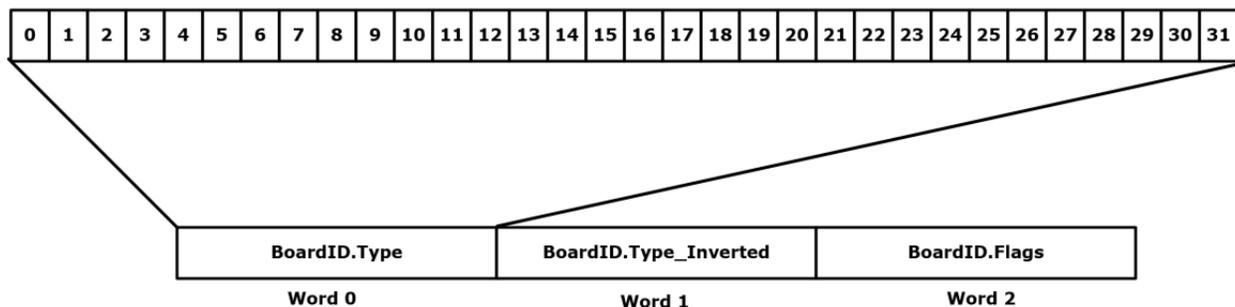

Figure 1
Figure 1 shows how the firmware developer may use three (3) 32-bit-writable words for the BoardID.